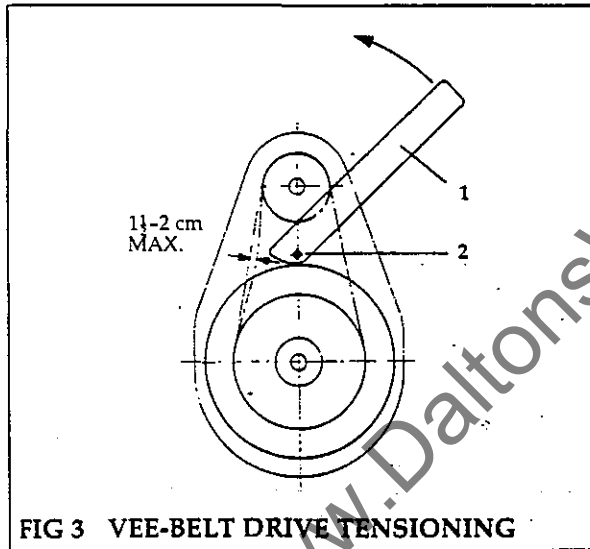

FIG 3 VEE-BELT DRIVE TENSIONING
Vee-Belt Drive Tensioning (Fig.3)
- (1) Remove the drive cover.
- (2) Check belt tension. The belt should be capable of being depressed approximately 1½ to 2 cm by application of average thumb pressure (see Fig.3).
- (3) To adjust: fit spanner (1) provided, to adjusting screw (2), located at motor support bracket and turn in an anticlockwise direction to tension the belt drive (see Fig.3).
It may at times be necessary to remove a drive pulley. The motor shaft pulleys are fitted with Taper-Lock bushes (see Fig.3), cutterblock spindles are fitted with parallel keys.